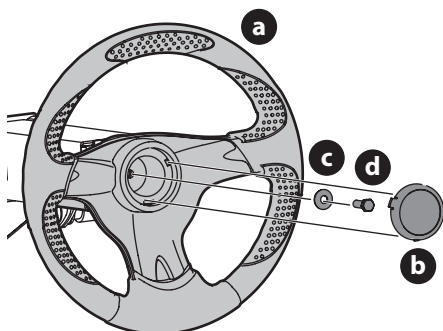

Figure 12
1. Remove the hardware for attaching the steering wheel (a) from beneath the steering wheel cover (b). Carefully remove the cover by inserting a small, bladed screwdriver into one of the three snap locations and slowly prying up on the steering wheel cover (b) to remove the hardware (Figure 12).
2. With the wheels of the machine pointing straight forward, place the steering wheel (a) over the steering shaft (Figure 12).
3. Place the Belleville washer (c) with the cupped side facing inward over the steering wheel and secure with the hex lock screw (d) (Figure 12).
4. Place the steering wheel cover (b) over the center of the steering wheel (a), align the three snaps with the tabs in the steering wheel, and push downward until it "clicks" into place (Figure 12).